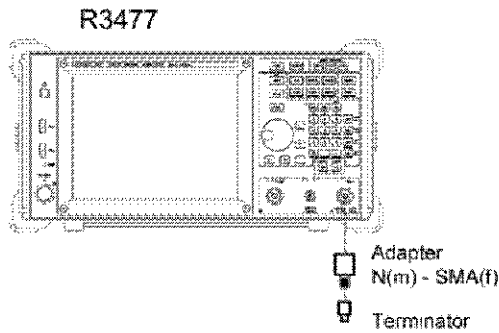

Figure 2-19 Residual Response Test
1. Connect the instruments as shown in Figure 2-19.